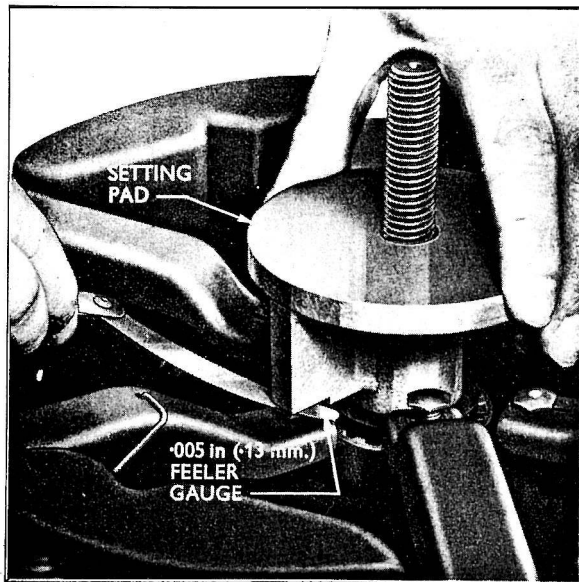

Fig. 20
4. Hold the setting pad firmly against the power take-off disc centralising collar and rotate the pad until the appropriate step is immediately above one of the clutch release lever adjusting screws. Turn the adjusting screws until a 0.005 in. (0.13 mm.) feeler gauge can just be inserted between the top of the screw and the underside of the appropriate step on the setting pad (see Fig. 20). Repeat the operation on each of the five remaining release levers.